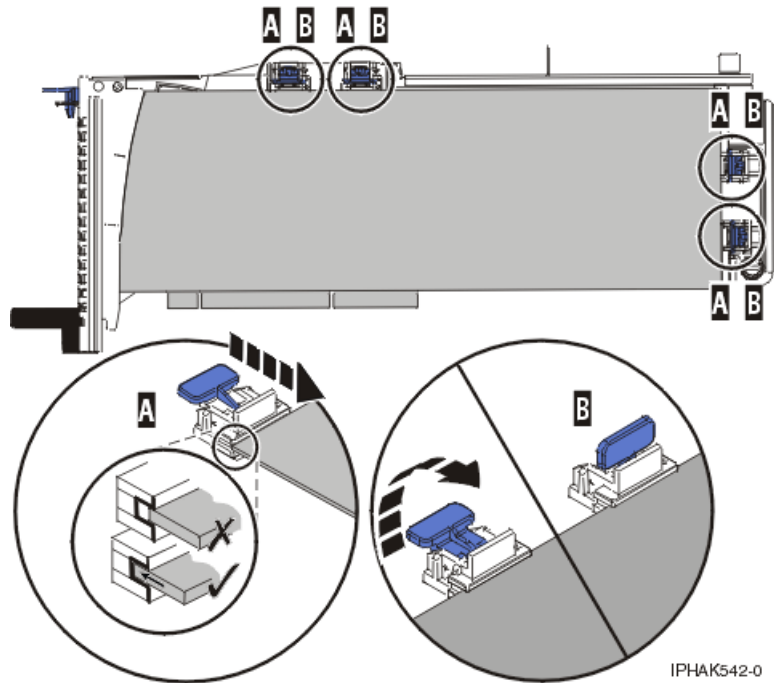

Figure 49. Long adapter in the PCI adapter cassette with the supports and stabilizer in place
- 3) Place and lock the retainers **B**. See Figure 49 on page 69.